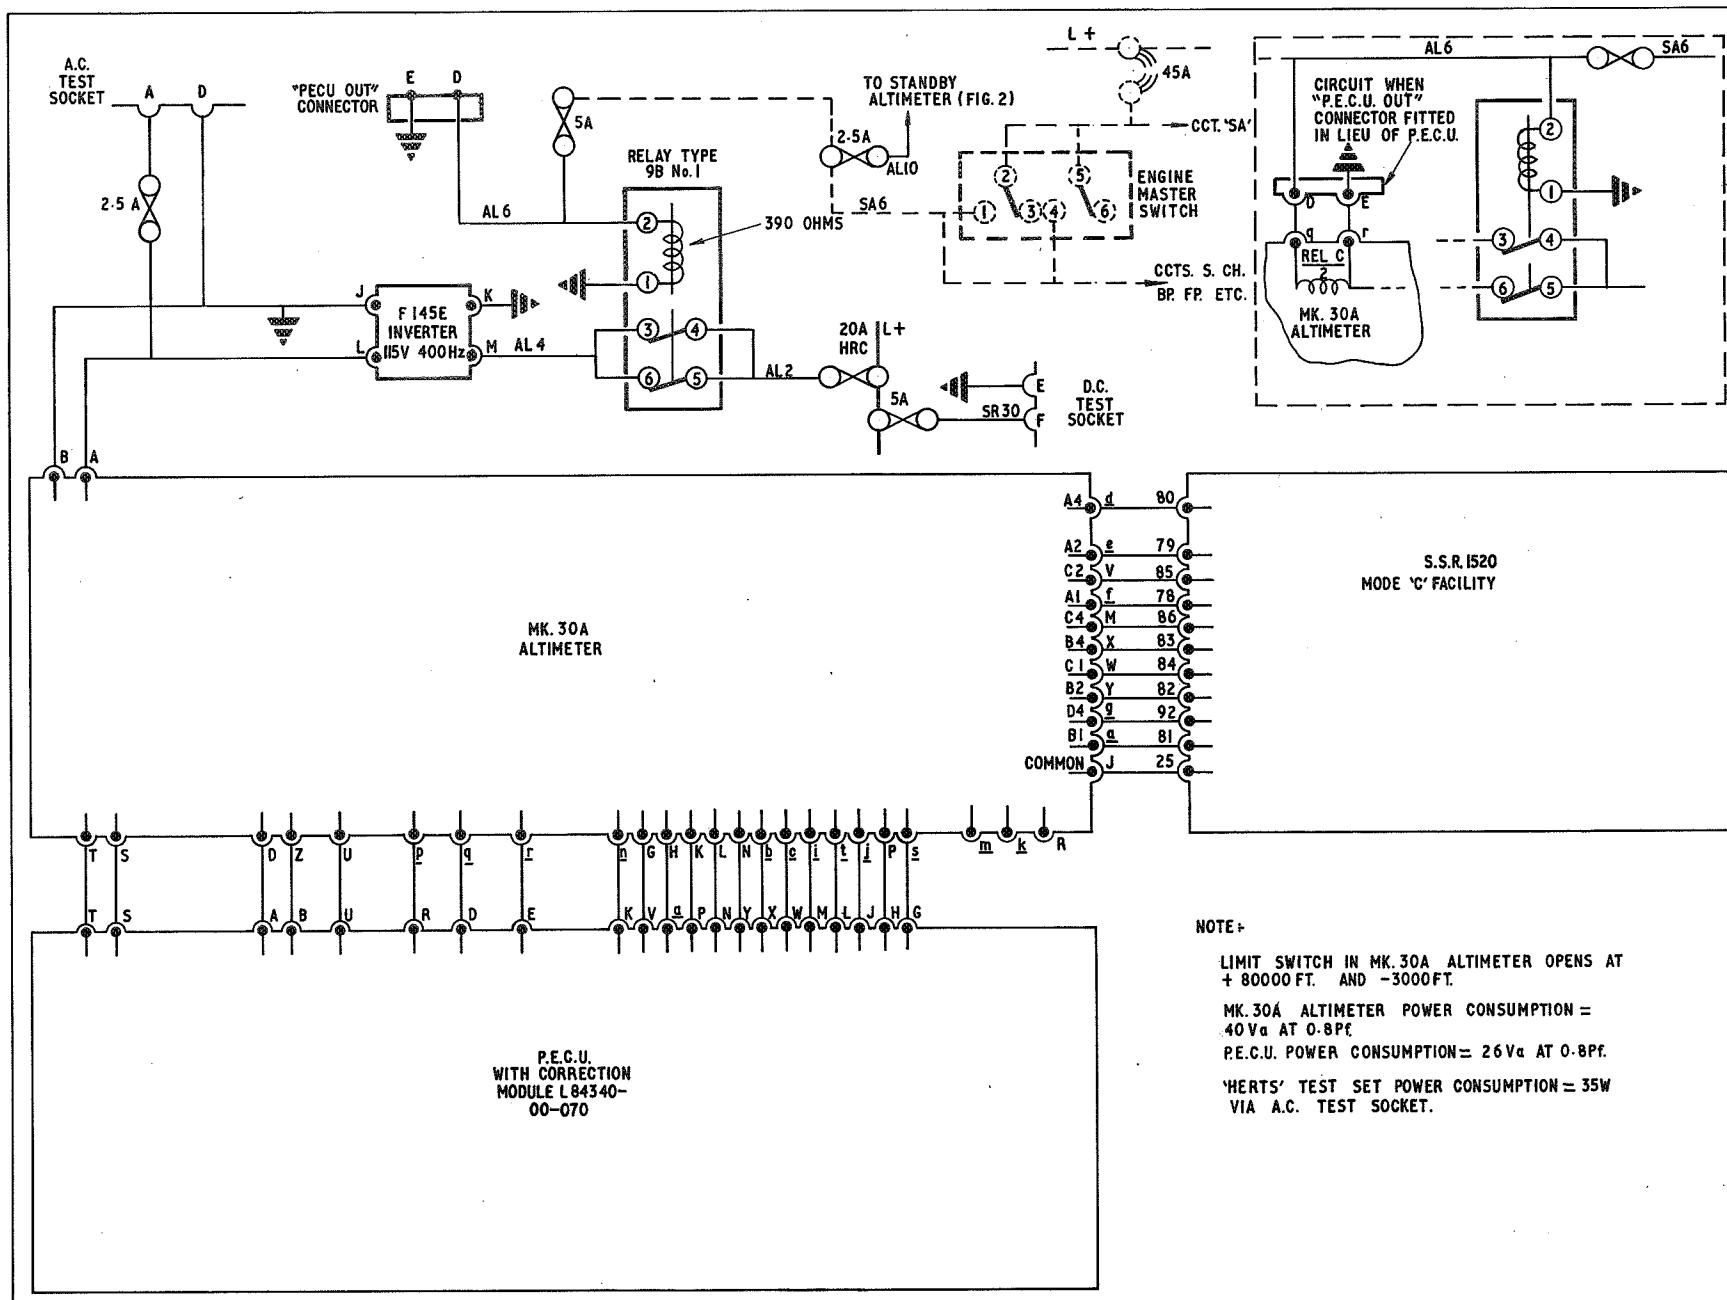

Fig.1 Height encoding altimeter system (theoretical — Mod.1383)
2. The height encoding altimeter system consists of a Mk.30A altimeter, a *PECU* and a single-phase 115V 400Hz inverter with its control and protection circuitry. Test sockets for in-situ testing of the system are also provided. Figures 1 to 3 illustrate the system.
(1) IFF/SSR Type 1520, ARI 23134/3 (ref. Sect.6, Chap.2, App.2).
(2) A.P.112G-1031-1 Altimeter Mk.30A publication.
(3) Routing diagrams — Figs.1 to 5.